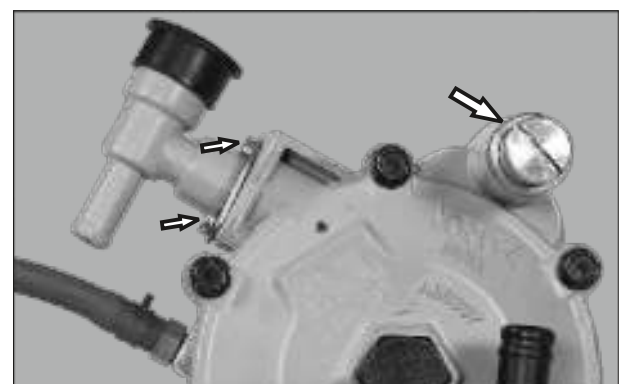

Fig. 7.27
- Remove kit idle screw along with spring, 'O' ring and spring guide. (Fig. 7.27)
- Loosen and remove 2 nos. Screw (M5x8) kit flow control body mounting. (Fig. 7.27)